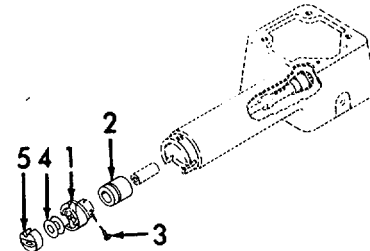

Figure 6-101. Bobbin and Rotary Sewing Hook Assemblies, Installation.
- (4) Refer to Figure 6-101. Install rotary-sewing hook (1) on hook shaft (2) and tighten three setscrews (3).
- (5) Install bobbin (4) in bobbin case (5) while holding latch (6) open, install bobbin and bobbin case in rotary-sewing hook.